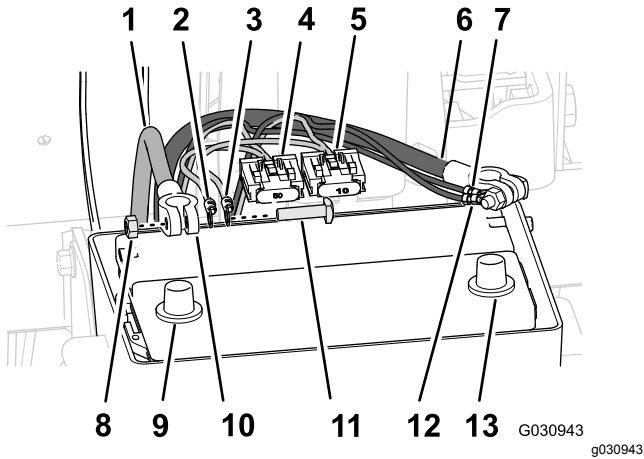

Figure 144
1. Route the positive terminal (red wire), negative terminal (black wire), and fues block (50 A) of the rear wire harness up between the battery box and the chassis of the machine (Figure 144).
5. Loosely secure the terminals and the T-bolt with a hex nut (Figure 144).
6. Assemble a T-bolt through the negative terminal (black wire) of the rear wire harness, the negative terminal of the navigation-electrical harness, and terminal of the negative battery cable (Figure 144).
7. Loosely secure the terminals and the T-bolt with a hex nut (Figure 144).
3. Remove the T-bolts and hex nuts from the terminals of the positive and negative battery cables (Figure 144).
4. Assemble a T-bolt through the positive terminal (red wire) of the rear wire harness, the positive terminal of the navigation-electrical harness, and terminal of the positive battery cable (Figure 144).